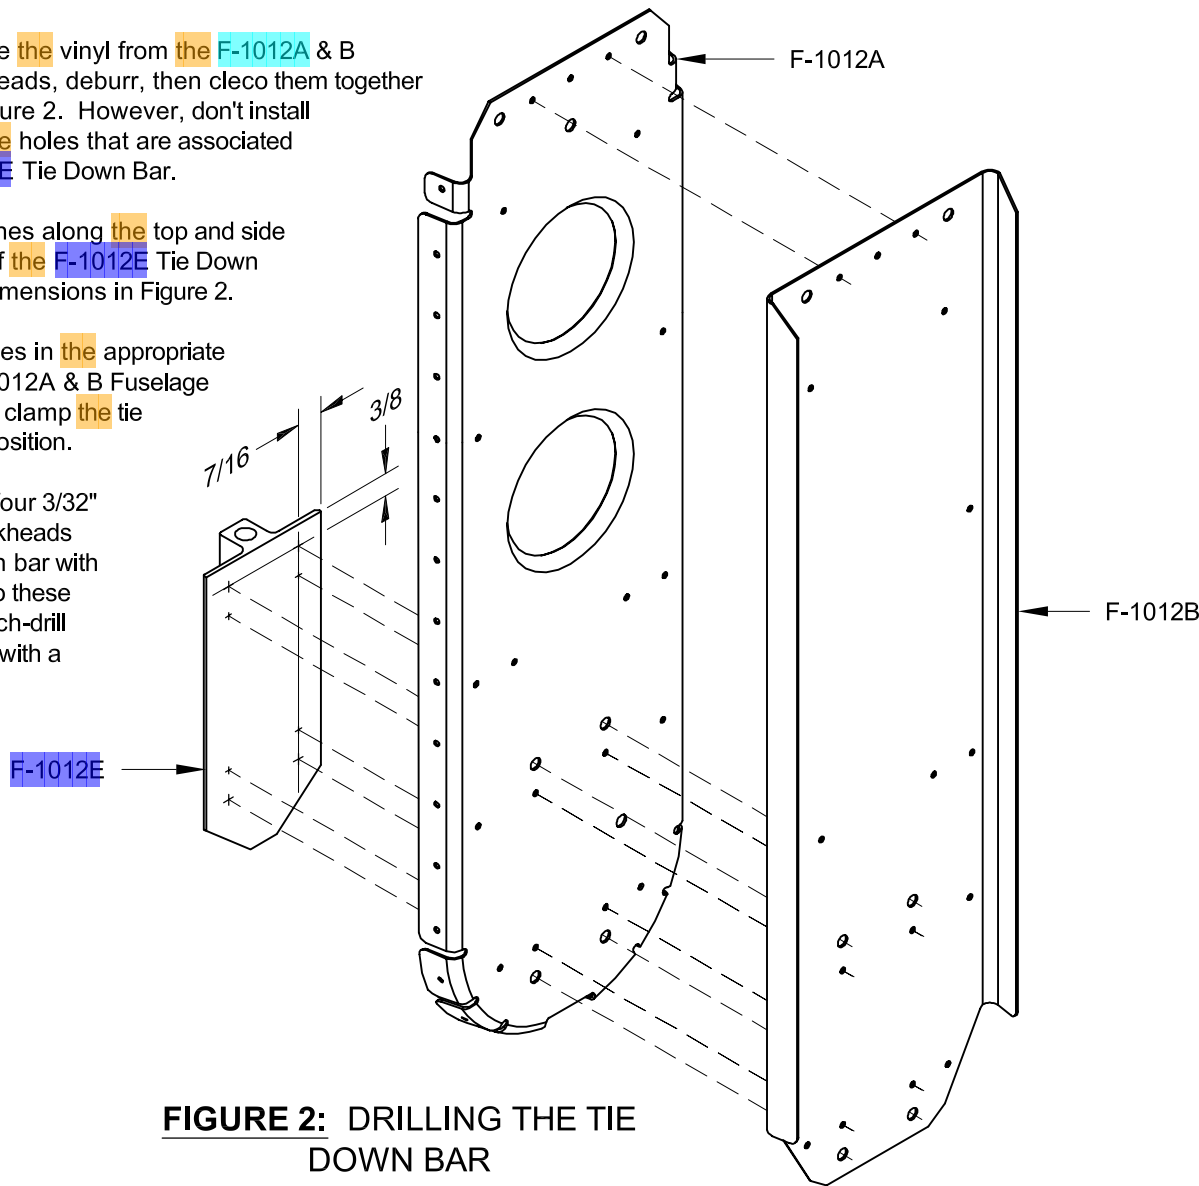

FIGURE 2: DRILLING THE TIE DOWN BAR
Step 2: Remove the vinyl from the F-1012A & B Fuselage Bulkheads, deburr, then cleco them together as shown in Figure 2. However, don't install any clecos in the holes that are associated with the F-1012E Tie Down Bar.
Step 3: Draw lines along the top and side of the aft face of the F-1012E Tie Down Bar using the dimensions in Figure 2.